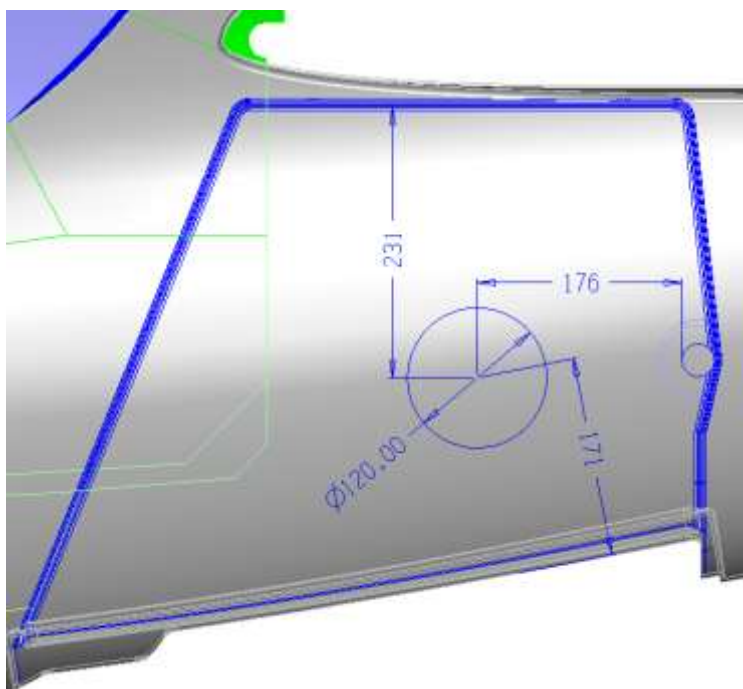

Figure 3. Inspection Hole Location
1. Cut a 120mm diameter hole in the side of the wheelbox in the position shown in Figure 3 below.